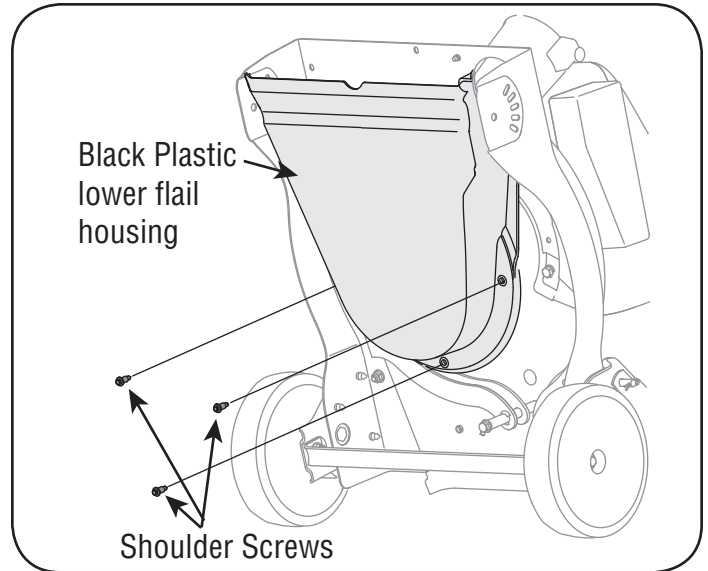

Figure 25
- Carefully tilt and support the unit up to provide access underneath to the nozzle mounting hardware and impeller. Remove the three shoulder bolts securing the black plastic lower flail housing to the lower housing. Refer to Figure 25.